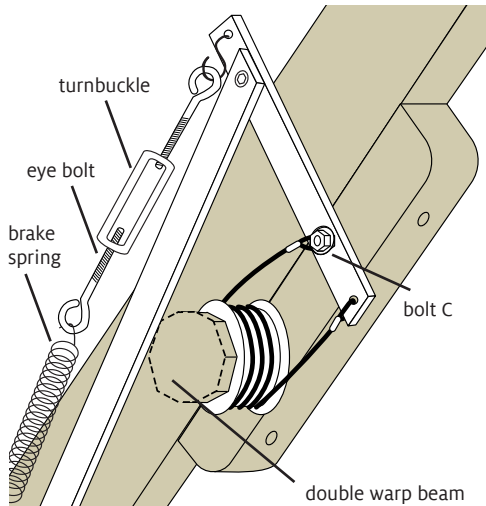

FIGURE 7: CONNECT BRAKE
15. Put another 1/4" washer on the carriage bolt at [C]. Sitting on the floor in back of your loom, wrap the brake cable around the brake hub three times, wrapping under to over from the outside of the loom towards the inside. Place the loop on the end of the cable over the carriage bolt at [C] and secure it with another 1/4" washer and a 5/16-18 lock nut (Figure 7). Make sure that the brake bar can pivot freely.
17. Reach under the double warp beam to grasp the top of the brake spring. Hook the brake spring to the eye bolt on the bottom of the turnbuckle (Figure 7).